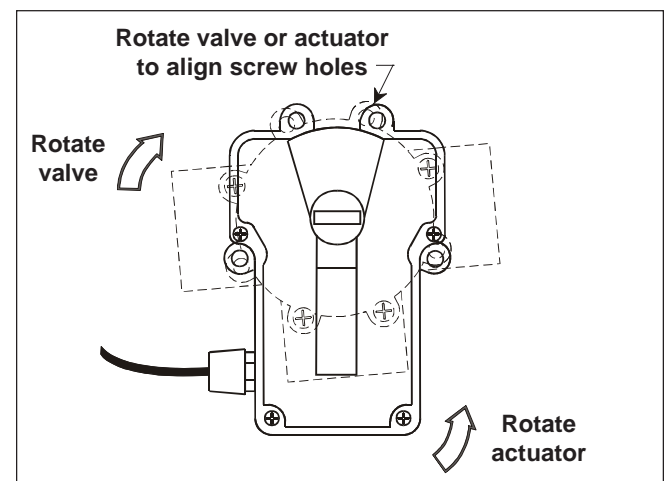

Figure 6. Actuator Mounting
5. Rotate the actuator while keeping the two shafts engaged until the screw holes on the actuator legs align with the empty screw holes (from step 2) in the valve (see Fig. 6).
6. Use the four (4) 2" Phillips head screws (packaged with the JVA) to secure the JVA to the valve.